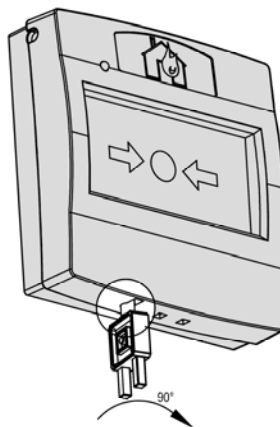
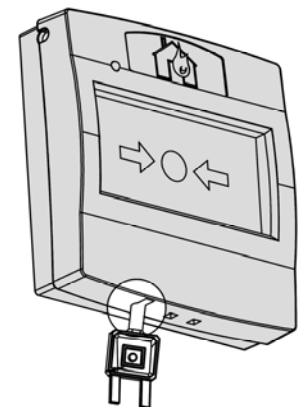

Figure 10
Figure 11
3. Rotate the key clockwise position up to 90-degree angle (Figure 10). then forcibly push the key inside until the glass plate completely return to its normal position. (Figure 11)